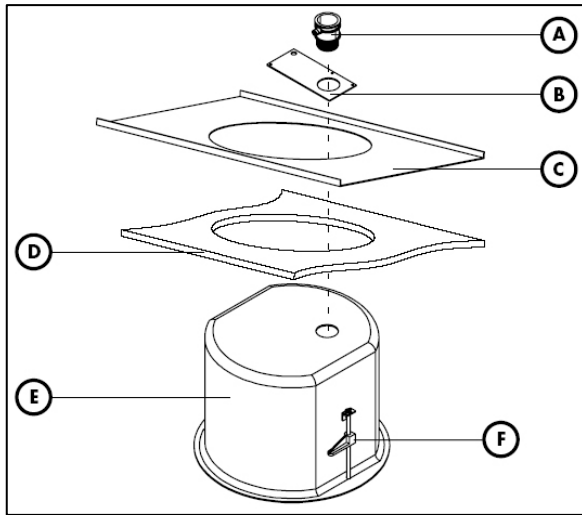

Figure 5: Mounting the Flush Mount Enclosure
- 12) Cut an 8" (20.32cm) round hole in ceiling tile (D) or drywall ceiling (See Figure 5).
- 13) If mounting the enclosure in an acoustic ceiling tile, then the (C) Tile Support Brace (sold separately - part # 997-9000-000) must be used to hold the weight of the dome enclosure on the back of the Tile Support Brace and distribute that weight into the ceiling grid. If mounting the enclosure in a drywall ceiling, then a support brace is not required.
- 15) Install the Housing Assembly (E) into the ceiling tile or drywall ceiling (Figure 5).
- 16) Turn the clamp screw clock wise to engage the anchor clip (F) and tighten the Anchor Clips onto the back of the ceiling or the back of the ceiling Tile Support Brace (C) (Figure 5).